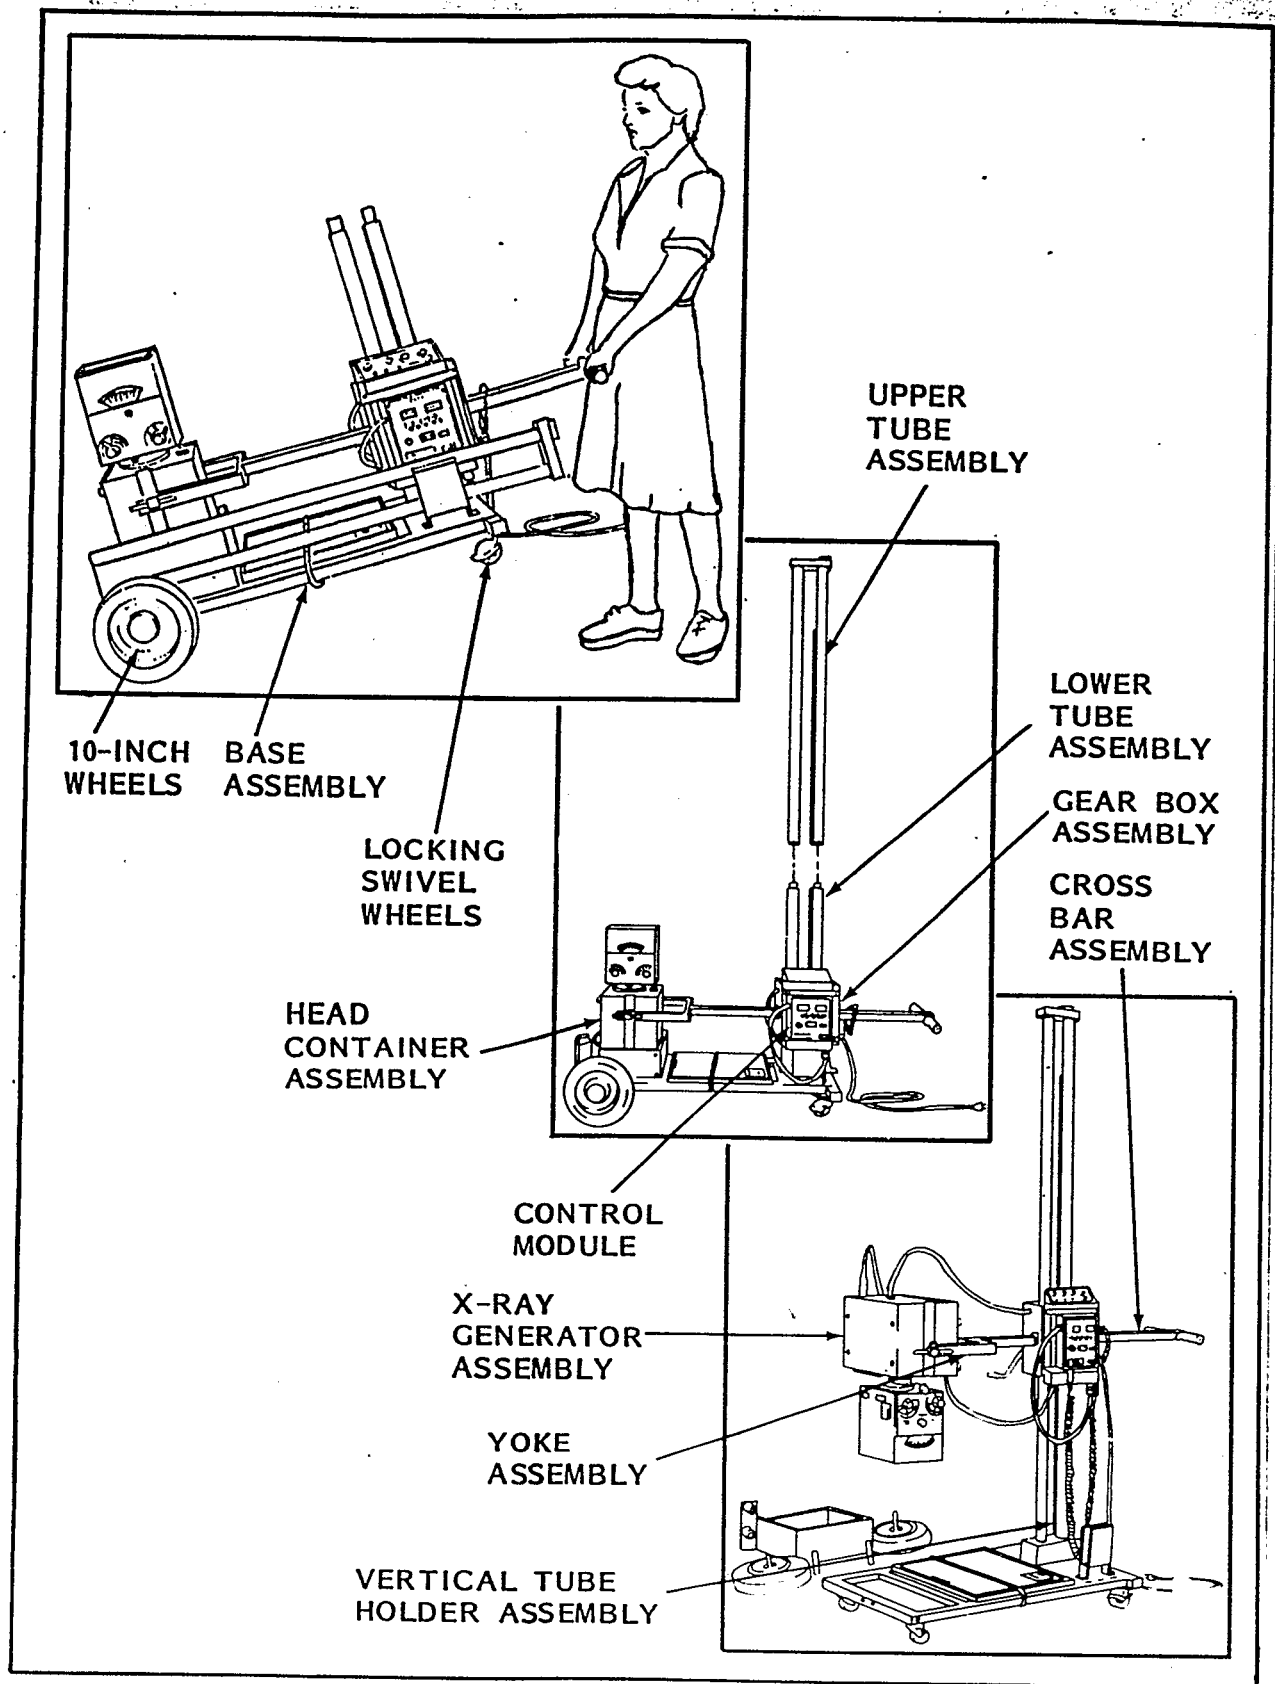

Figure 2-1. Setup of the X-Ray System
9. Unlock two locking swivel wheels and transport X-Ray System to point of use (figure 2-1).
13. Install the upper tube assembly in the lower tube assembly (figure 2-1).